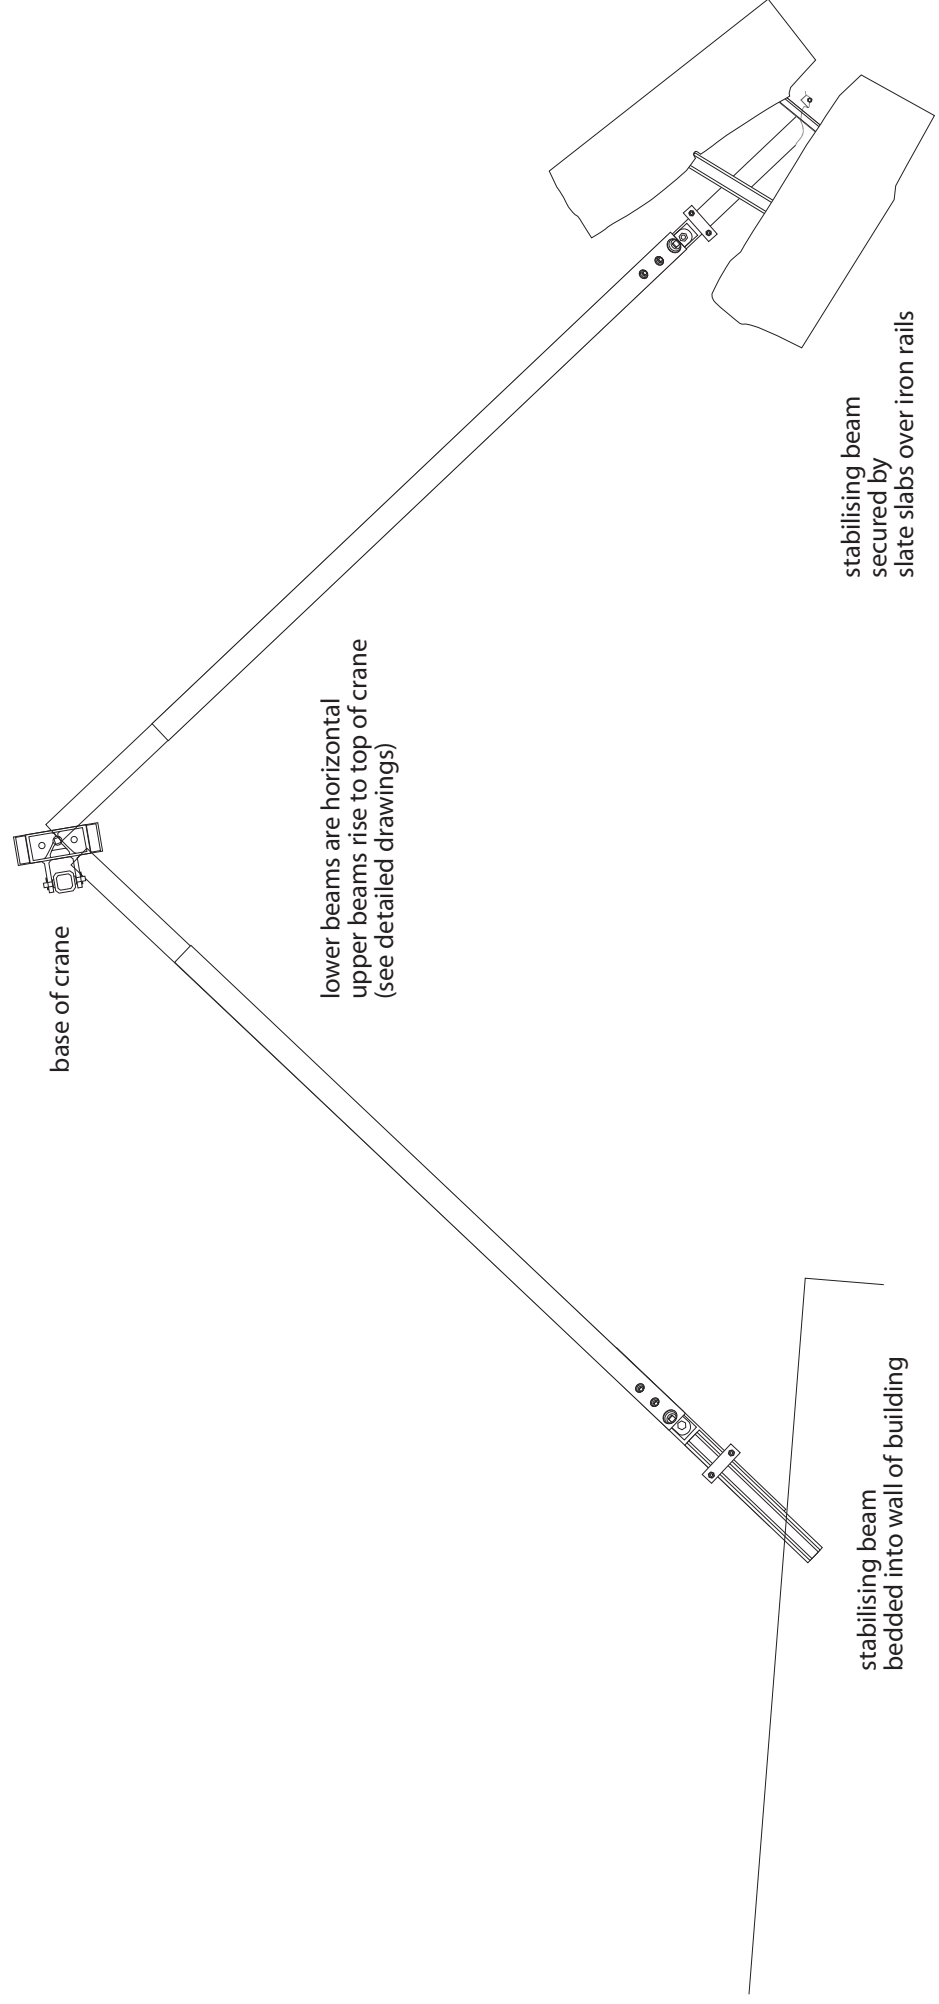

Fig.2 Elevation showing jib in place
- Fig. 2 Elevation showing jib in place (scale 1:50)